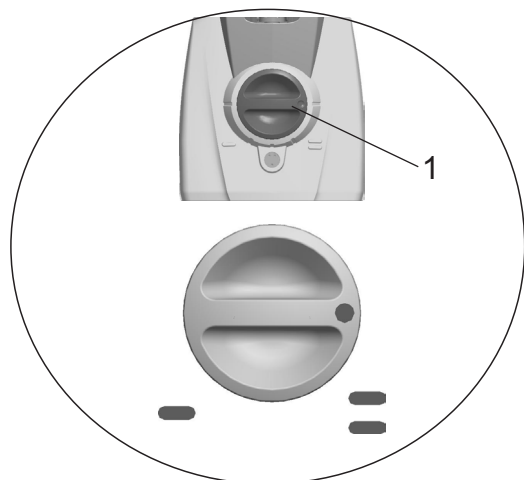

Fig. 4
The stapler setting for a different staple leg length is altered as follows. Start by adjusting the depth of stapling for deep clinching (=) as shown in Fig. 4.
- Depress the knob (Fig.4/1) and turn it to any of the five positions.